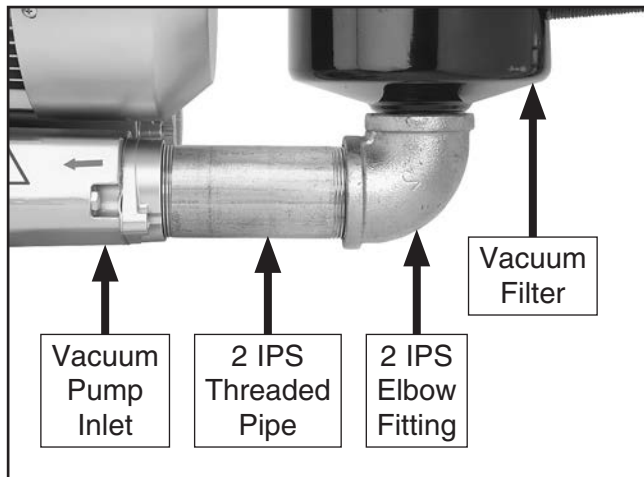

Figure 27. Pump to filter connection.
1. Connect 2 IPS elbow fitting to 2 IPS threaded pipe (see **Figure 27**).
2. Connect 2 IPS threaded pipe to vacuum pump inlet (see **Figure 27**).
3. Connect vacuum filter to 2 IPS elbow fitting (see **Figure 27**).